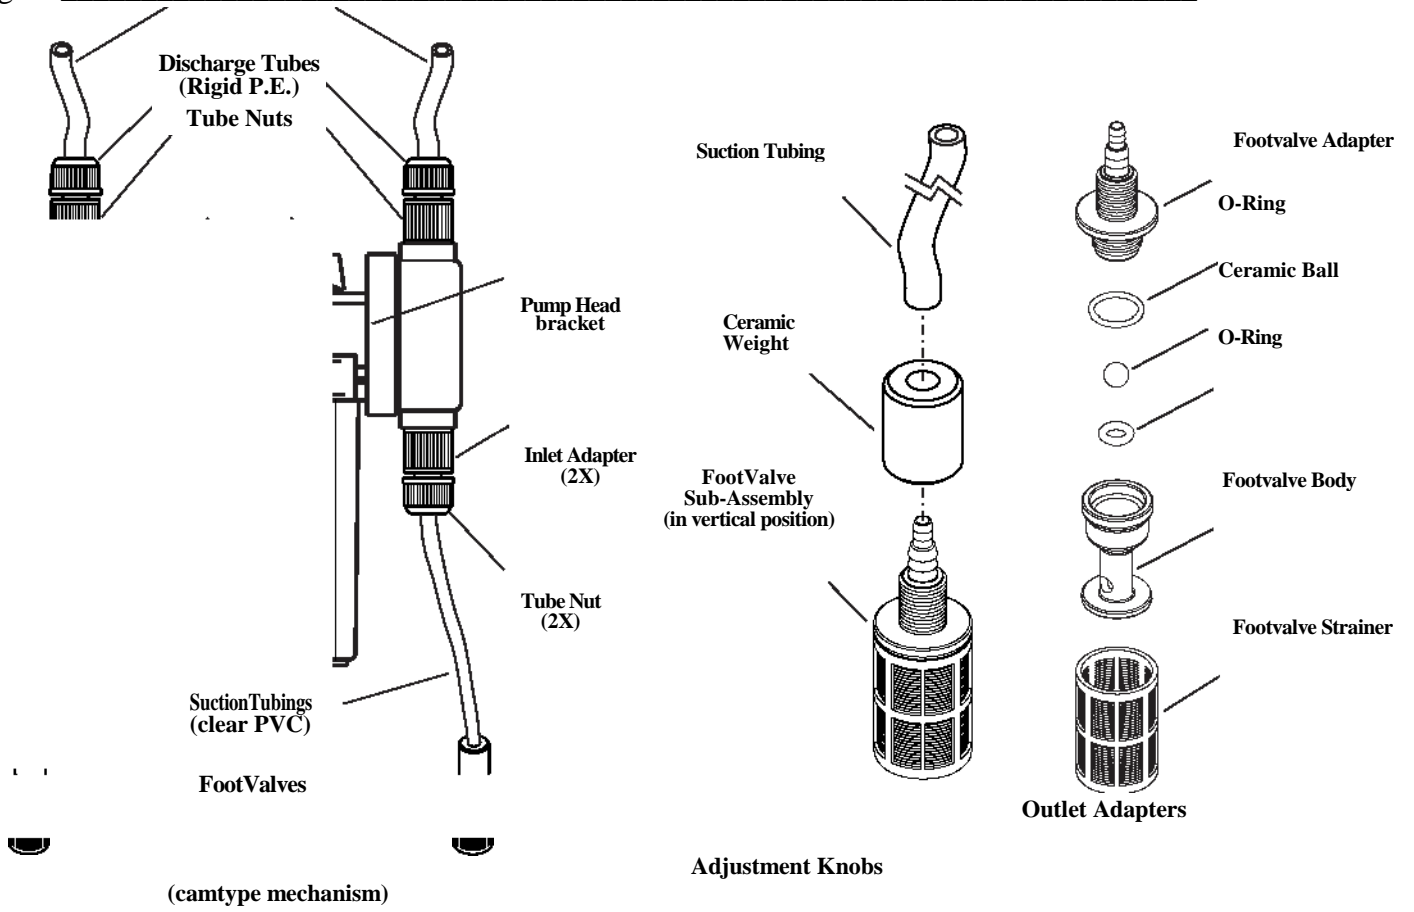

FIG. 4.7 FOOTVALVE ASSY.
- g' Periodically clean the suction strainers. Fig.4.7